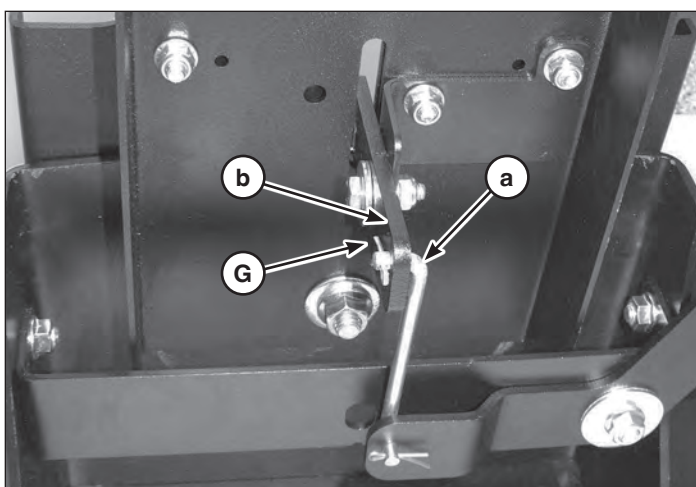

Figure 10
5. Insert pin (**a**, Figure 10) into latch bar (**b**) and secure with cotter pin (**G**). Slightly bend longer leg of cotter pin.